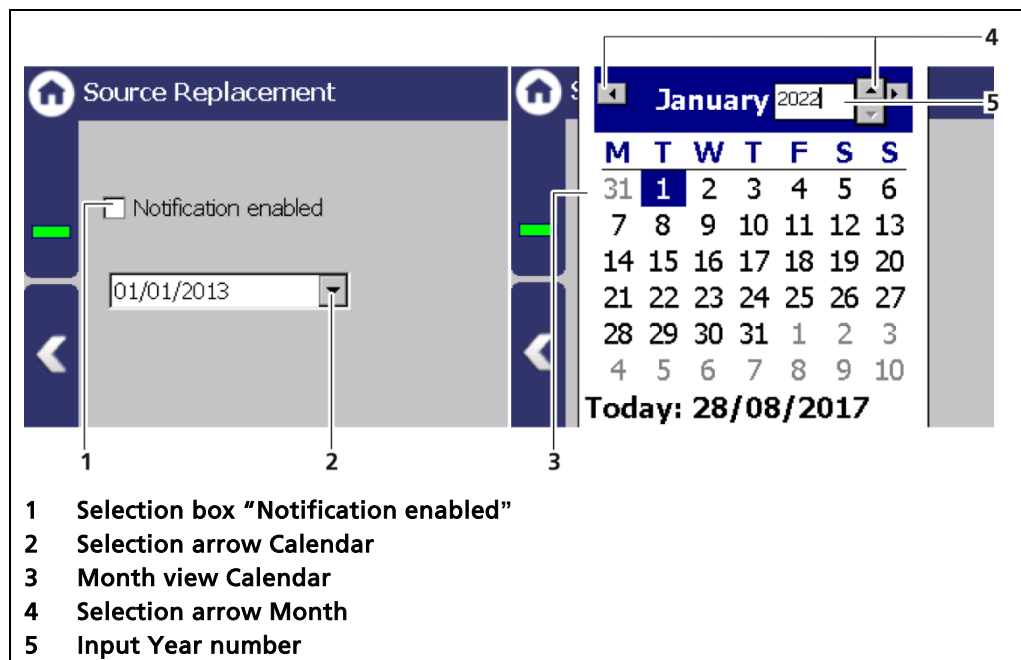

Fig. 107 Date radioactive source replacement
1. Activate the selection box (Fig. 107, item 1).
2. Click on the arrow key (Fig. 107, item 2) in order to set the date.
3. Click on the year (Fig. 107, item 5) to select the year with the arrow keys, or enter the year in the input box.
4. Set the month (Fig. 107, item 4) and select a day.